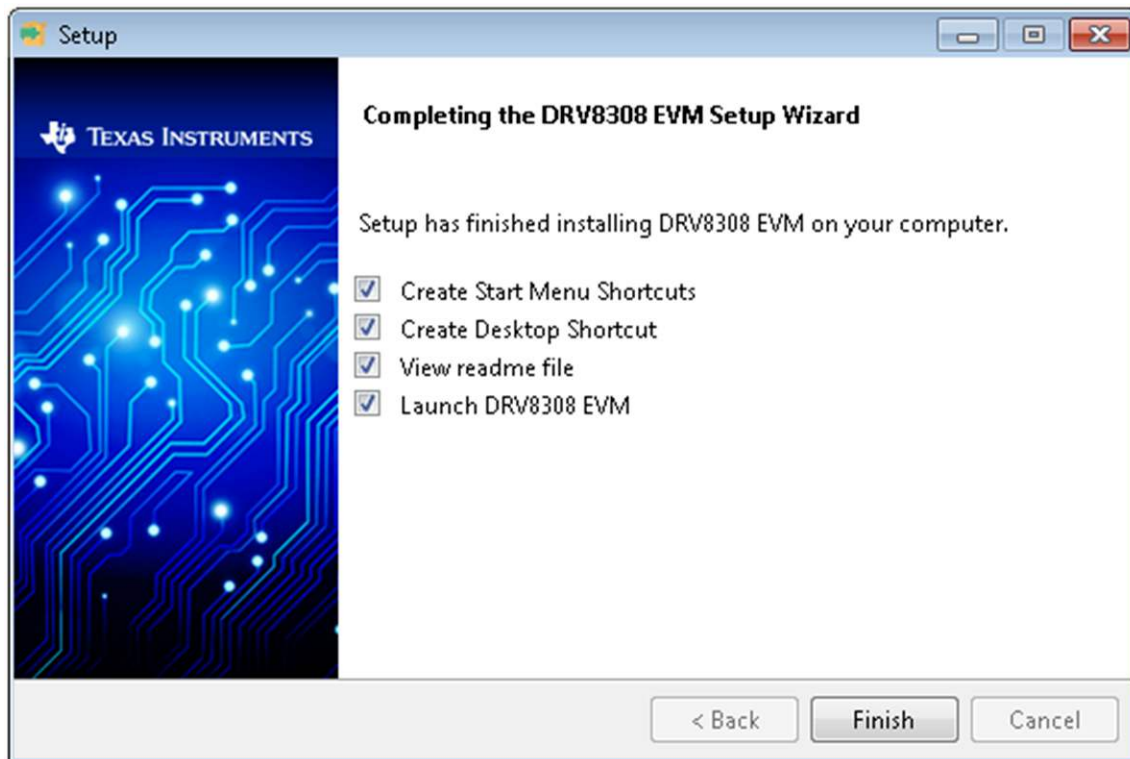

Figure 15. Setup Completion
Step 10. The window in Figure 15 displays when installation is complete. Click the *Finish* button to complete the installation.